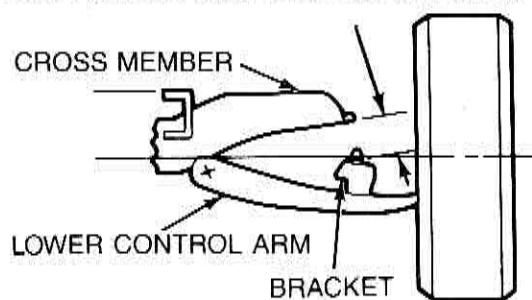

Figure 3-2 — Ride Height Measurement
5. Check for a difference in the ride height between right and left sides of the vehicle. (See Figure 3-2.)
The caster, camber and toe-in specifications for both the G- and P-Series chassis are shown in Figure 3-3. The caster specifications will vary depending on the ride height measurement shown in Figure 3-2. This measurement is commonly referred to as either Dimension "A" or Dimension "BC".